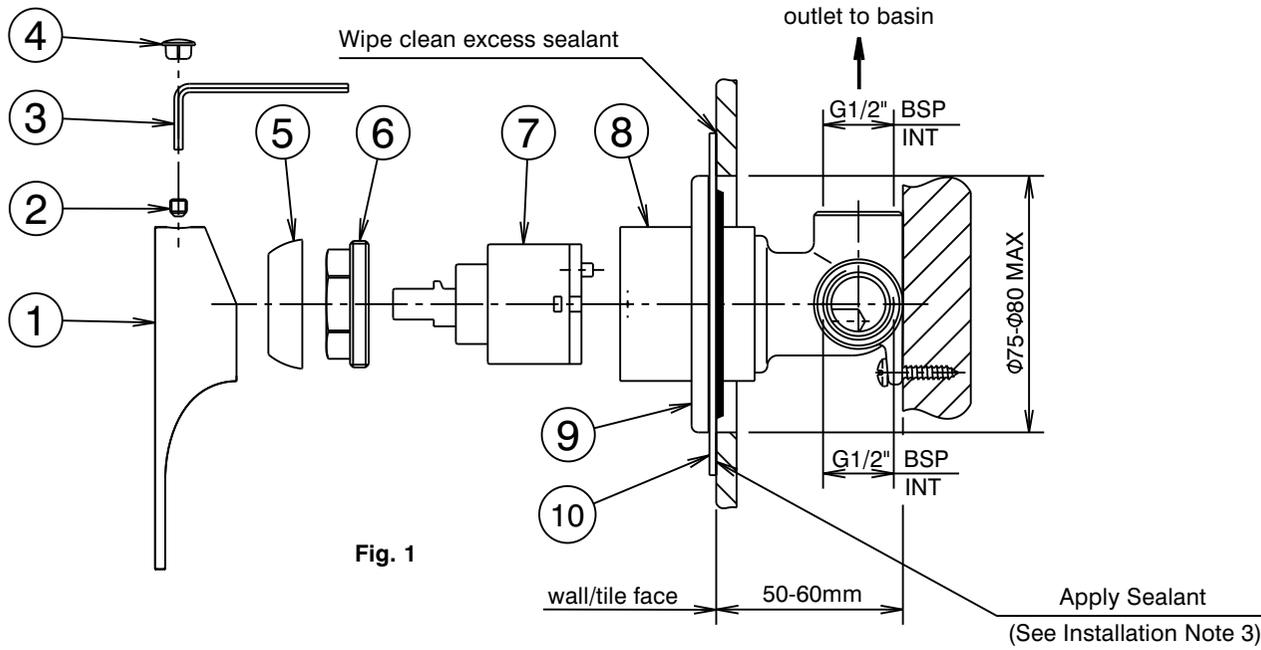
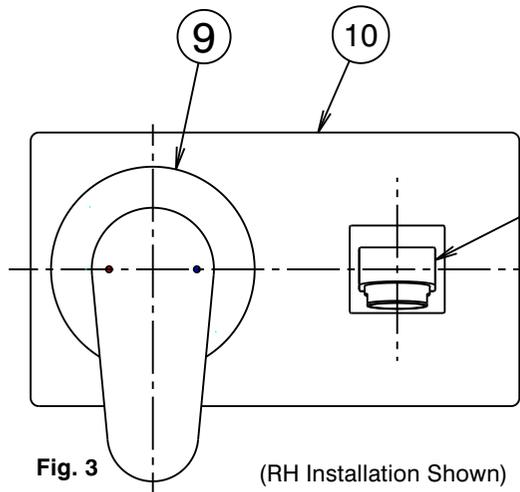

Fig. 1
Fig. 3
- \* Mixer body (8) must be installed square to wall/tile face, to ensure cover plate (10) sits flush.
- 2) Accurately mount a wall elbow (12+) (or equivalent) for connection to the basin outlet in the desired orientation (to the right or left of mixer body)(Fig. 3).
- 3) Ensure that the trim cover (9) is fitted to the cover plate (10) to suit RH or LH installation (Fig 3). Apply a suitable clear sealant to the back face of the cover plate (10) to prevent water from entering the wall cavity, leaving an unsealed section at the bottom for drainage (Fig. 1).
Carefully slide the cover plate (10) together with trim cover (9) onto the mixer body (8), push firmly on the trim cover until cover plate (10) contacts the wall/tile face & sealant has formed a waterproof joint. Wipe clean any excess sealant from the chrome surfaces & the wall/tile face (See Fig. 1).
- 4) Fit handle (1) as shown, taking care that it is pushed fully down, then tighten grub screw (2) using 2.5mm allen key (3). Insert plug (4) taking care not to damage the decorative finish.
#### Replacing Cartridge (Fig. 1)